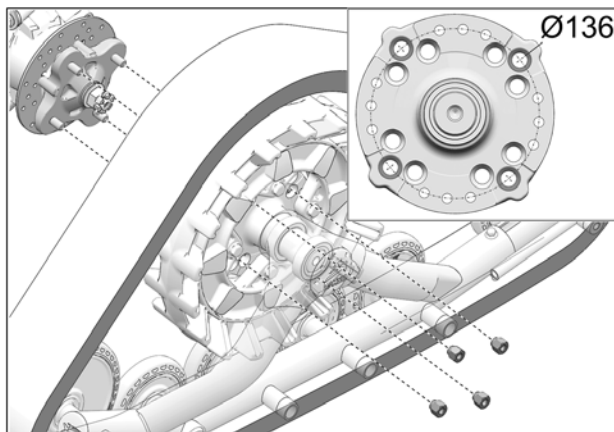

Fig. 18
- Secure undercarriage to front hub using the vehicle's own lug nuts. Use bolt circle $\text{\O}136\text{ mm}$. See Fig. 18